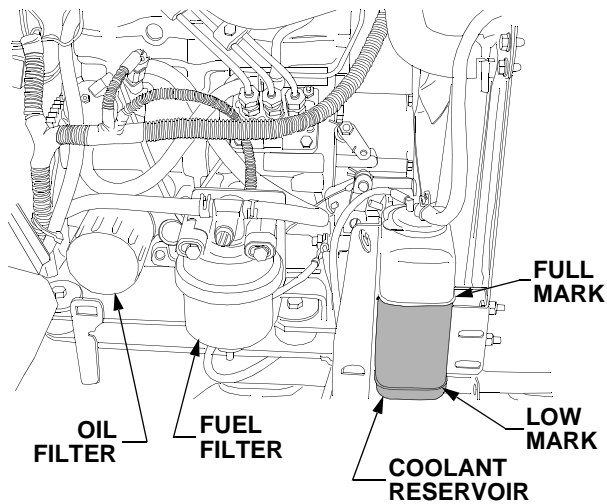

Figure 55
- Remove the filter by turning it counterclockwise using an automotive type filter wrench to loosen. See Figure 55.
- Raise the tractor hood and check the coolant level in the overflow reservoir on the *right* side of the engine. Refer to Figure 55.